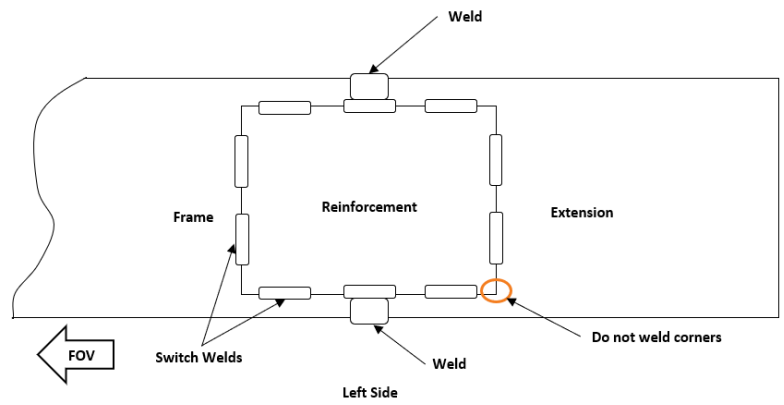

Fig. 1
- Grind the outer side of the vertical frame web down smooth, clamp on a reinforcement section and skip weld to the frame and extension, see figure 1.
- Do not weld at the corners of the reinforcement to minimize stress concentrations, see figure 1.